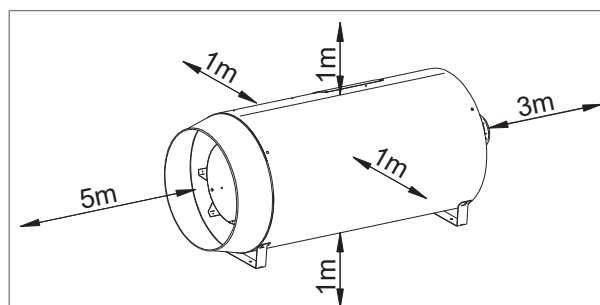

Figure 2 - Minimum clearances around the air heater
- Keep sufficient distance between the heater and any obstructions. This is both for safety reasons and to allow access for service and maintenance (figure 2).